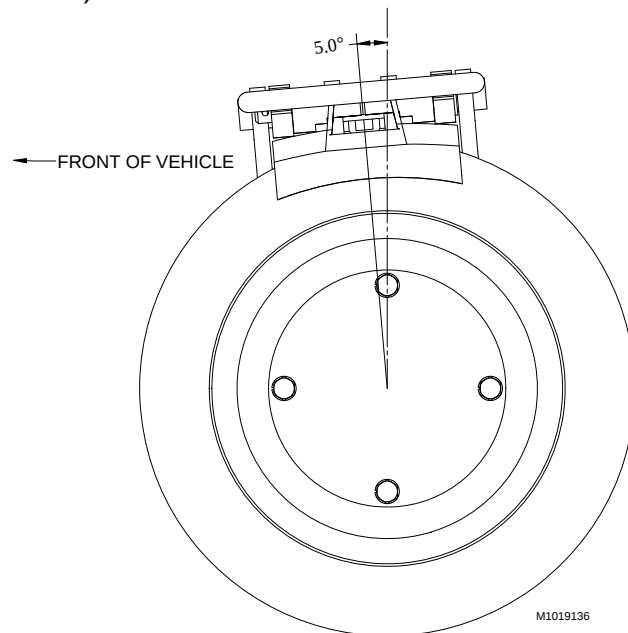

Figure 4.5.4.C Front Brake Orientation
6. The cobra brakes need to be rotated so that they are oriented in the correct position (see Figure 4.5.4.C).
1. If the spring bracket location had to be adjusted, make sure that the hex nuts (two per stud) on both spring brackets have been tightened down. Then with a torch, cut the excess stud length on the spring brackets. If these studs are not trimmed down, they may pose a clearance problem with other parts on the truck. See CLEARANCE NOTE and Figure 4.5.4.B.